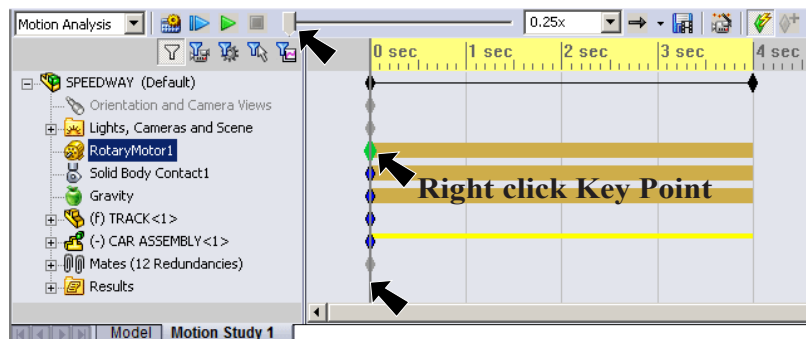

Fig. 28
Step 1. **Rewind Motion Study to 0 seconds.** To rewind, either **drag the Play Head**  back to the beginning in the Motion Manager toolbar or **drag the Time Bar**, the gray vertical line back to 0 in the Timeline, **Fig. 28**. It's good practice to rewind before you make changes in the Timeline, otherwise you could create unwanted Keys.
Step 2. **Double click Key Point**  at **Time = 0** in the **Rotary-Motor1** Timeline, **Fig. 28**. Or, you can right click RotaryMotor1 in the Motion Manager design tree and Edit Feature. Be sure to rewind before edit the motor using this method.